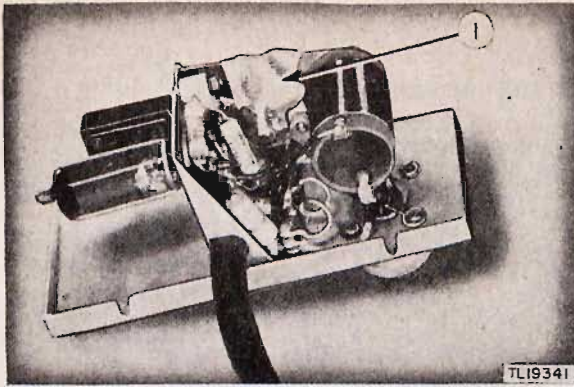

Figure 72. Test Oscillator TS-237/TRC-8 (XC-8), masking details.
d. Masking. Mask ceramic trimmer (item 1, fig. 72).
(1) Apply three coats of moistureproofing and fungiproofing varnish (Lacquer, Fungus-resistant, Spec No. 71-2202 (Stock No. 6G1005.3), or equal. Allow each coat to air-dry for 15 or 20 minutes before applying the next coat.
(2) Apply varnish immediately after the equipment is dried. If varnish is not applied immediately, moisture condenses on the equipment. Var-